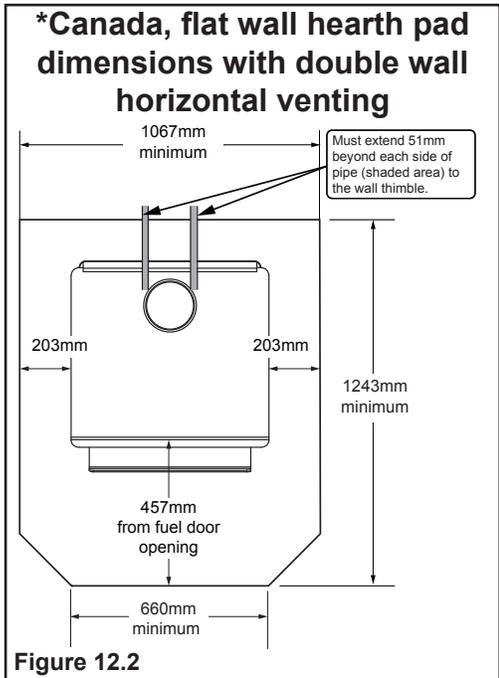

Figure 12.2
In Canada, similar floor protection must be provided 18 inches (457mm) in front and 8 inches (203mm) from the sides and rear of the appliance unless the hearth pad is placed against the wall (**Figure 12.2 or 13.2**). Then the clearance may be reduced using double wall pipe and the **Clearance to Combustibles** table listed on page 14.
***Exception:** Non-combustible floor protector must extend beneath the flue pipe when installed with horizontal venting and extend 2 inches (51mm) beyond each side; **See Figure 12.2 or 13.2.**